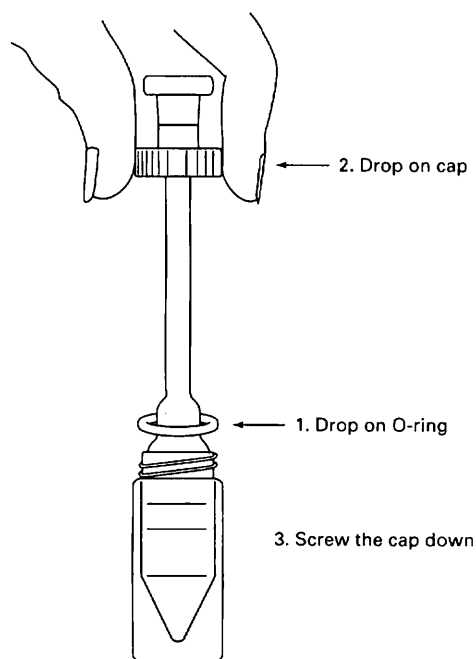

Fig. 31 O-ring cap seal on skinny apparatus.
1. Get a conical vial (appropriate size) that'll fit on the bottom end (male joint) of the wide-bottom air condenser (Fig. 31).